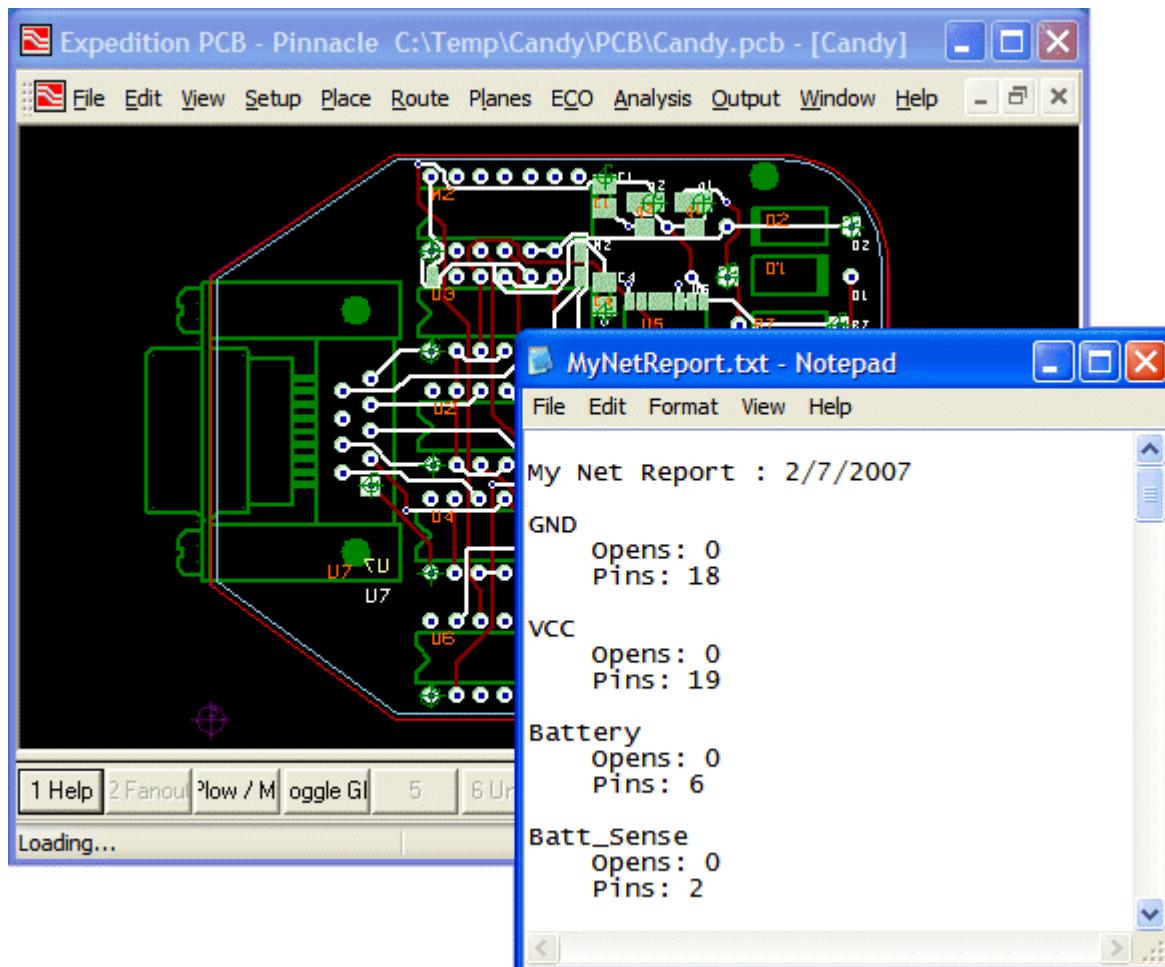

Figure 12-24. The *ViewNetReport.vbs* script launches the NotePad editor.
- 4) Observe that as soon as the net report has been generated, this new script launches the NotePad editor and uses this editor to display your *MyNetReport.txt* file as illustrated in Figure 12-24.